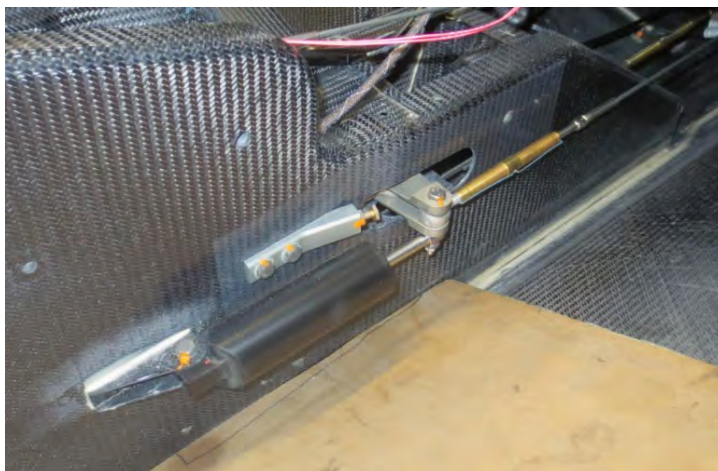

FIGURE 9-55
10. Disconnect rudder return spring by removing the FWD bolt. Retain hardware. See Figure 9-55.